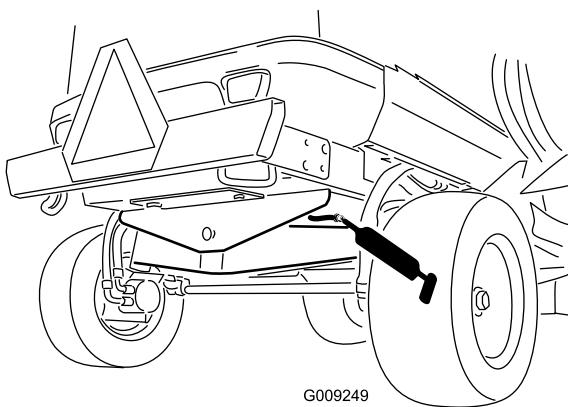

Figure 50
- 1 rear axle-pivot bushing (Figure 50)